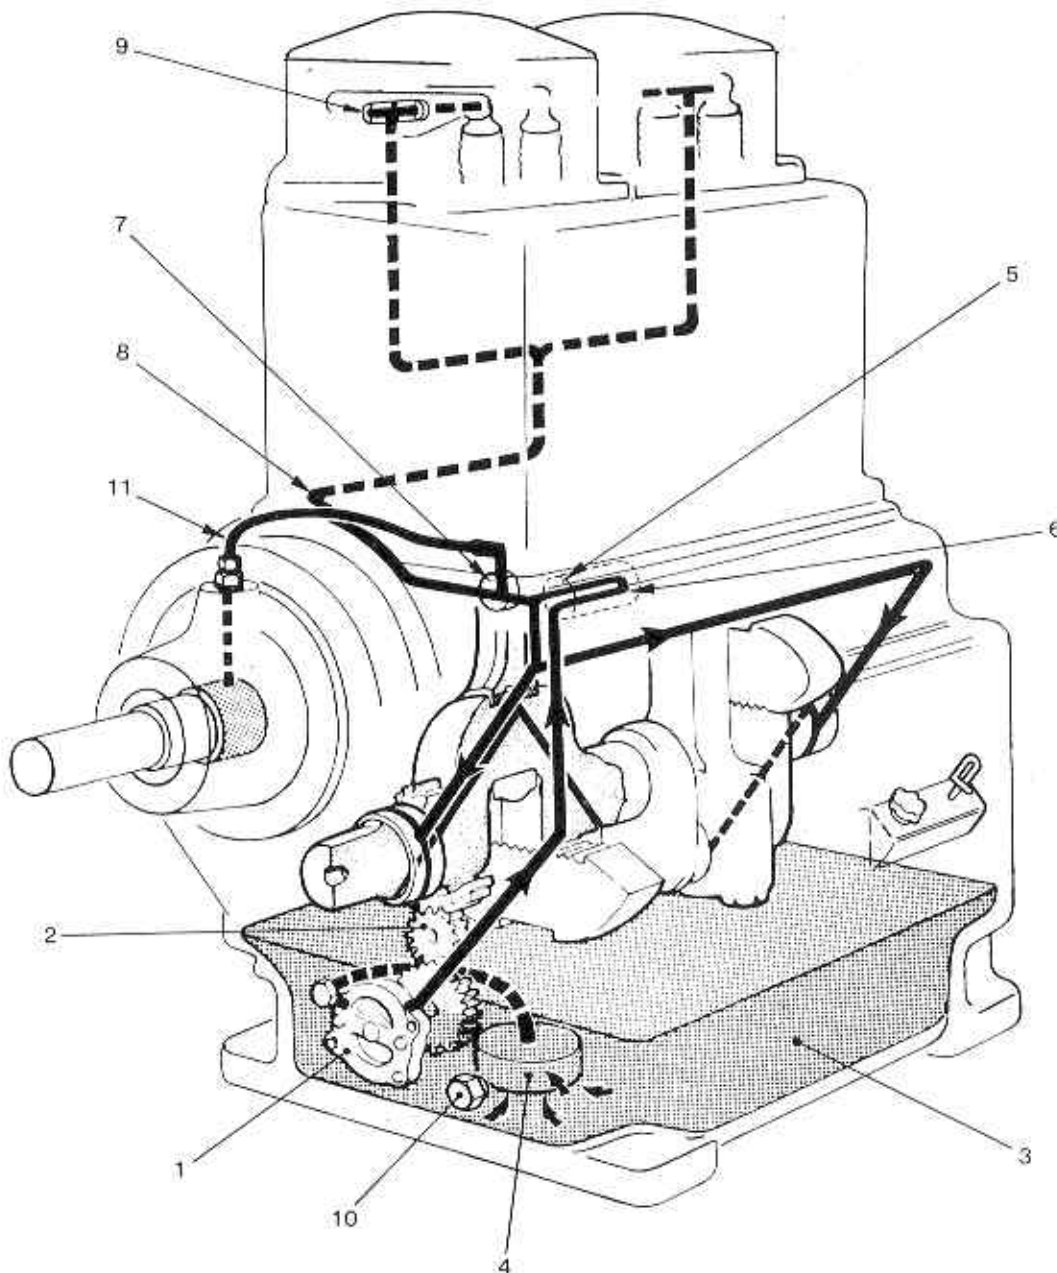

Figure 2.1 Typical Lubricating Oil System
2.2 The lubricating oil system is shown in Figure 2.1. The pump (1) is mounted at the gear end of the crankcase and is driven via an idler gear (2) by a gear fitted on the crankshaft. Lubricating oil is drawn from the sump (3) via a strainer (4) by the pump and then pumped via an adjustable pressure relief valve (5) to a full flow oil filter (6). The oil is then fed via a distribution bracket to the crankcase